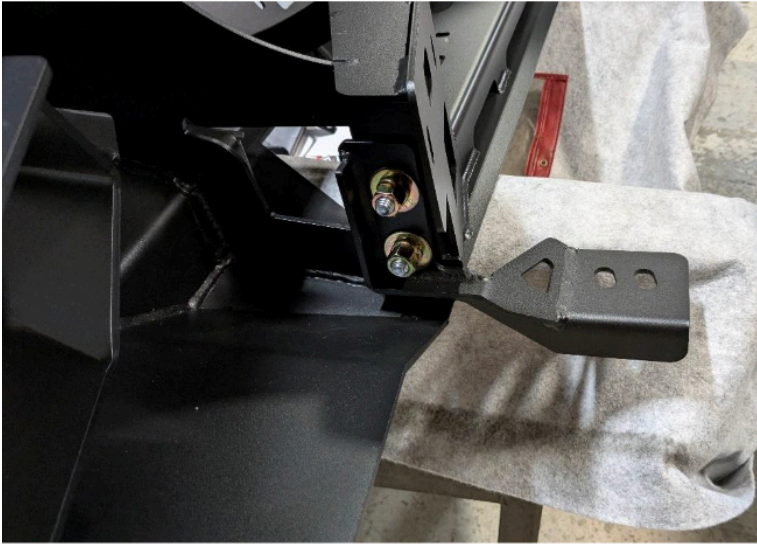

Figure 46.
37. Using the two (2) provided bolt strips (part#: 20296) and four (4) 1/2" flat washers, lock washers, and nuts, install the two (2) provided brackets to the bumper. Part#: 23418 is the driver's side and part#: 23419 is the passenger side. Figure 46